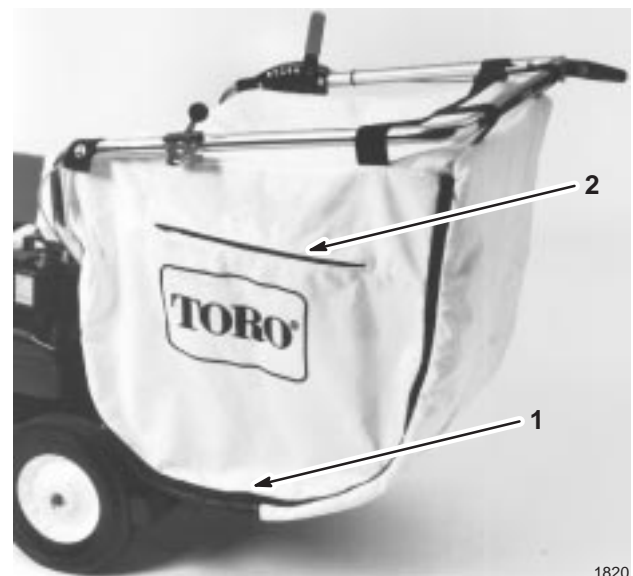

Figure 14
3. Unzip the side of the bag and dump the contents (Fig. 14).
The bag has a zippered vent (Fig. 14). When vacuuming an area which is basically free of dust, open the side vent should be open to allow free movement of air. When vacuuming a dusty area, close the vent.